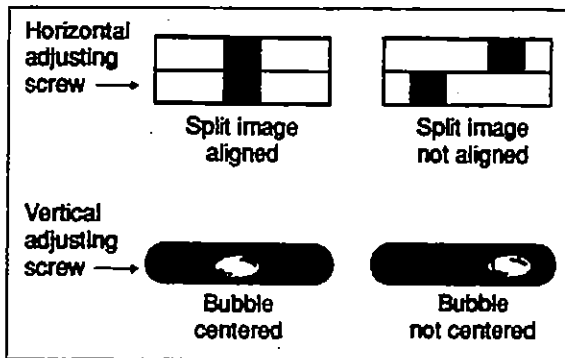

Figure 45
3. Turn the horizontal aim adjusting screw of each headlight until split image is aligned (see fig. 45).
2. Turn the adjusting screw of the headlight vertical aim until bubble is centered (see fig. 45). Repeat operation on other headlight.